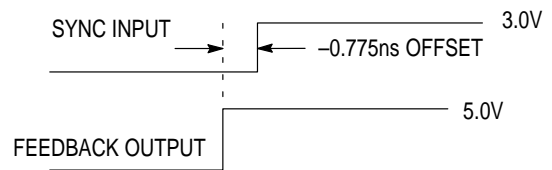

Figure 2. Depiction of the Fixed SYNC to Feedback Offset ( $t_{PD}$ ) Which is Present When a 470KΩ Resistor is Tied to VCC or Ground
| $t_{PD}$ 3(Sync-Feedback)                    | SYNC input to feedback delay(meas. @ SYNC0 or 1 and FEEDBACK input pins)(See General AC Specification note 4 and Fig. 2 for explanation) | (470k $\Omega$ From RC1 to An.V $_{CC}$ )                            |                      | ns   |
4. A 1 MΩ resistor tied to either Analog VCC or Analog GND as shown in Figure 2 is required to ensure no jitter is present on the MC88915 outputs. This technique causes a phase offset between the SYNC input and the output connected to the FEEDBACK input, measured at the input pins. The tPD spec describes how this offset varies with process, temperature, and voltage. The specs were arrived at by measuring the phase relationship for the 14